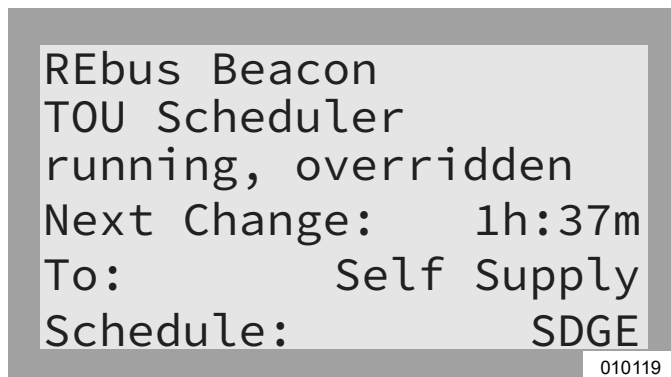

Figure 6-24. Overriding Scheduler
- See Figure 6-24. Running, Overridden will display on the Beacon device page.